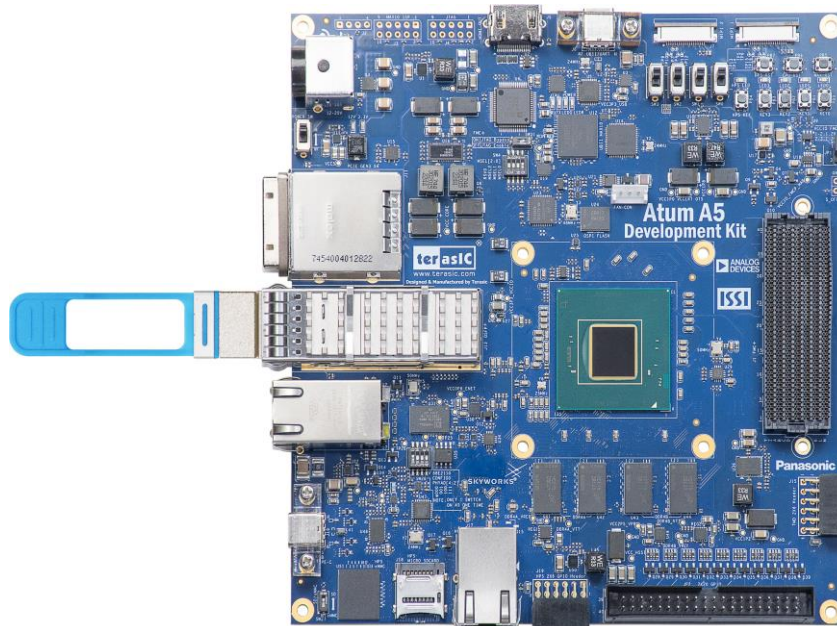

Figure 2-27 Setup QSFP+ loopback fixture
1. Insert a QSFP+ loopback fixture into the QSFP+ port on the FPGA board, as shown in **Figure 2-27**.